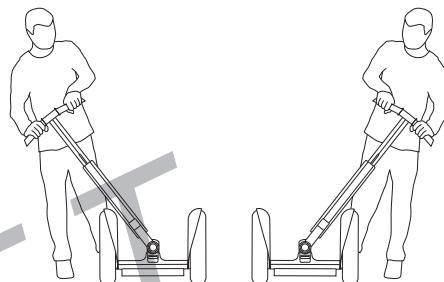

Figure 6: Check LeanSteer Frame
- With the Segway PT powered down (OFF), lean the LeanSteer Frame fully left and right, until it touches each fender (see **Figure 6**).